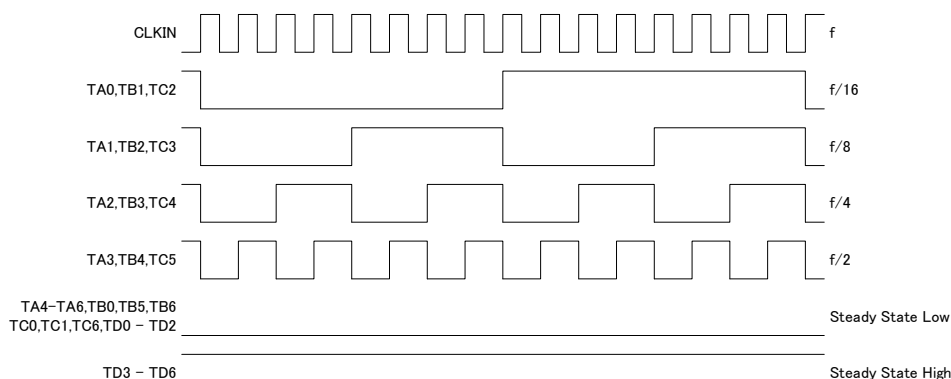

Figure 1. 16 Grayscale Pattern
| I _{trccw} | LVDS Transmitter Operating Current Gray Scale Pattern 16(Fig.1) | RL=100Ω, CL=5pF, f=85MHz RS=VCC, (RS=GND) | 42 (34) | - | mA |